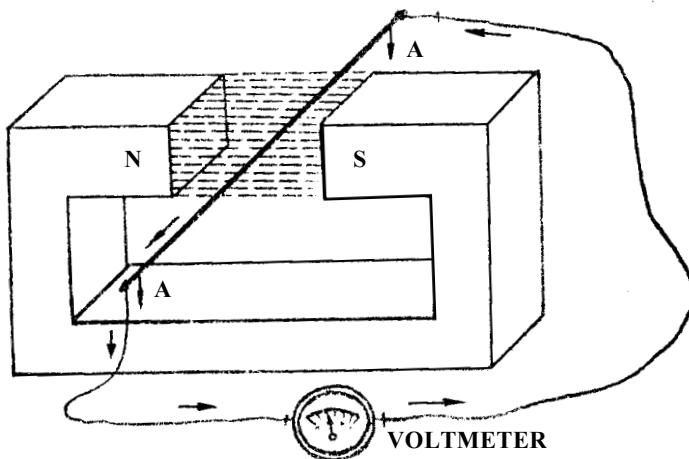

Fig. 4. Principle of electromagnetic induction
If a conductor (wire) is moved across this magnetic field so that, in effect, it cuts across "the lines of magnetic force" a voltage will be produced in it. This action is illustrated in Fig. 4.
"When a conductor cuts or is cut by a field of magnetic force an electromotive force is produced in that conductor". The direction in which the current will flow in the conductor is determined by the direction of motion of the conductor. As shown in Fig. 4, the field direction is from N to S (north to south pole of the magnet); the direction of the motion of the conductor is down and the current direction is as shown by the arrows. If the movement of the conductor were upward the direction of the current would be the opposite of that shown in the illustration.
III. Describe Fig. 4 according to the plan given below:
1. What does Fig. 4 illustrate?